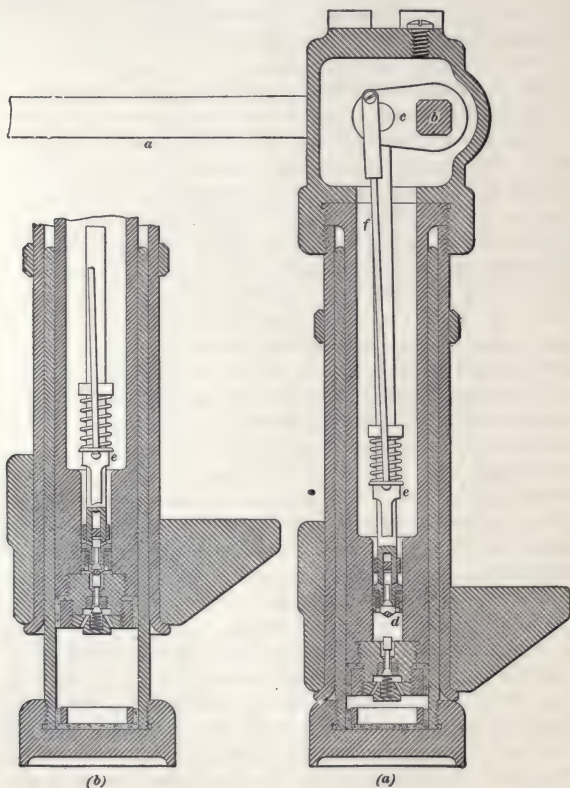

FIG. 10.
**19.** A **Watson-Stillman hydraulic jack** is shown in section in Fig. 10 (*a*). In this illustration, *a* is a lever that is depressed by the operator when he desires to raise the load. This lever freely fits a rectangular hole or socket in a shaft *b* that extends clear through the ram head. The shaft *b* carries the crank *c* to which the piston *d* is hinged. A small valve is placed in the center of the piston and serves to open or close communication between the water space above and below the piston. The lower end of the ram is fitted with a small check valve, which normally is held closed by the small spring shown beneath the valve. The inside of the jack is filled with a mixture of alcohol and water, about 2 parts of alcohol to 3 parts of water, which prevents the freezing of the liquid when the jack is used in cold weather. The operation is as follows:
The jack being clear down, as shown in Fig. 10 (*a*), it is placed under the load and the operator alternately depresses and raises the lever through its full range, the motion being limited by a projection on the under side of the lever. The slightest depression of the lever closes the valve in the piston. The downward movement of the piston continuing, the water between the bottom of the piston and the end of the ram is subjected to a pressure that opens the valve in the end of the ram. This allows the water under pressure to pass into the space beneath the ram. The pressure so transmitted to the lower end of the ram forces it upwards. The lever having been depressed to its limit is again raised. This raises the piston, causes the piston valve to open, and allows the water above the piston to flow beneath it. The pressure of the water below the ram promptly closes the ram valve as soon as the piston commences to move upwards. The operation may now be repeated as often as required.
In order to lower the ram, the lever is withdrawn from its socket and inserted again with the projection upwards. It can now be depressed far enough to cause the end of the piston to strike and open the ram-head valve, as shown in Fig. 10 (*b*), where the parts of the jack are shown in the relative positions occupied while lowering. But before the water in the bottom of the ram can escape to the top, the valve in the piston must also be opened. This is accomplished by a heavy spring that forces the sleeve *e* downwards. The lower end of the sleeve has a cotter working in a slot in the piston rod; the cotter bearing against the top of the valve forces the latter downwards. The sleeve is connected to the crank *c* by the so-called lowering wire *f*, in such a manner that the cotter will not strike the piston valve while the jack is raising the load. The ram will descend as long as the lever is kept hard down; it can be stopped instantly by raising the lever slightly.